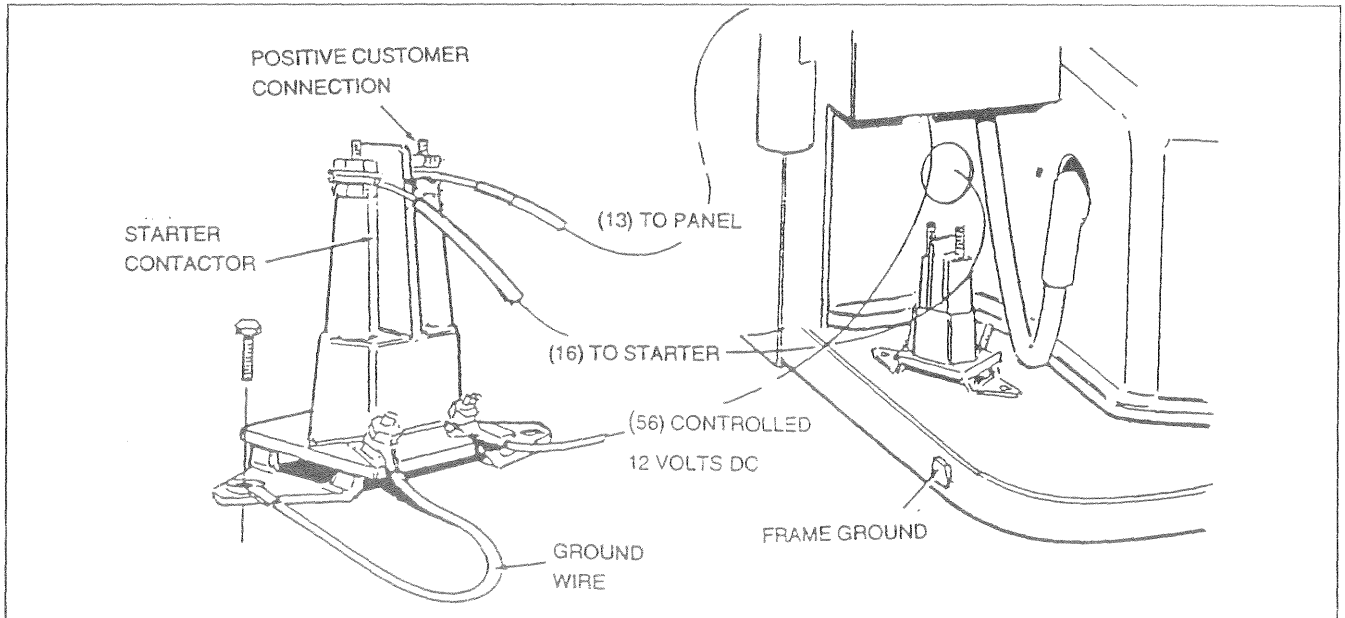

Figure 31 — Connecting Battery Cables
1. Connect the battery cable from the battery post or terminal indicated by a POSITIVE, POS or (+) to the large lug on the starter contactor as indicated in Figure 31.
2. Connect the battery cable from the battery post indicated by a NEGATIVE, NEG or (--) to the frame ground connection (Figure 31).